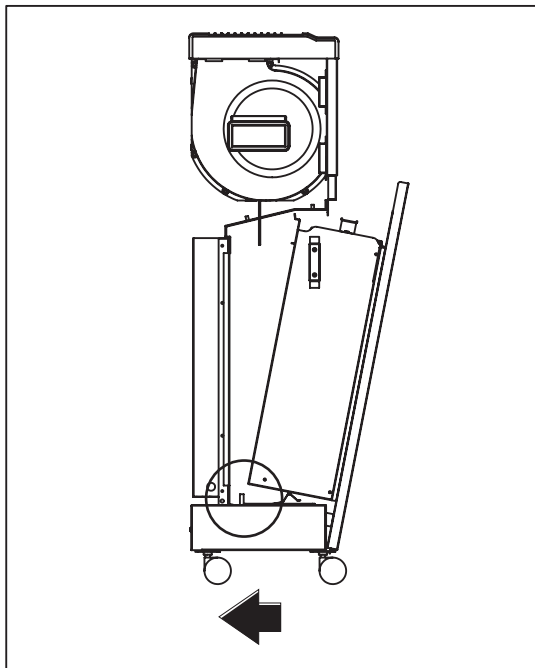

Fig. 3.4-5 Move the switch to the back of the unit.
1. Install the switch further to the back of the unit so that the switch works before the cell leaves from the unit power contact terminals (Fig. 3.4-5).